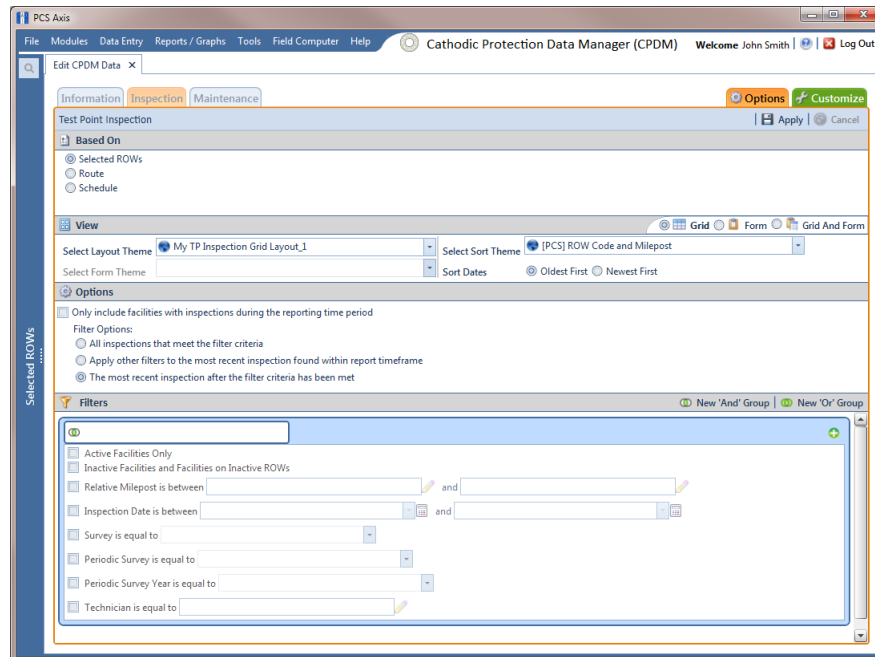

Figure 7-65. Options
- Click the **Options** tab  to open the options page (Figure 7-65). In the **View** group box, click the option labeled  **Form** or  **Grid And Form** and then click **Apply**.